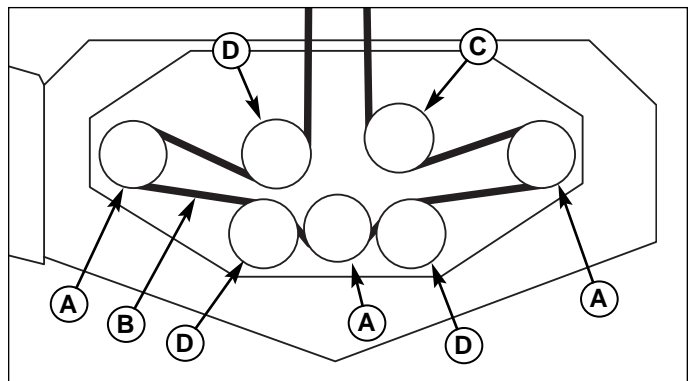

Figure 27. Mower PTO Belt Routing
6. Remove the old belt and replace with a new one. Make sure the V-side of the belt runs in the pulley grooves (Figure 27).